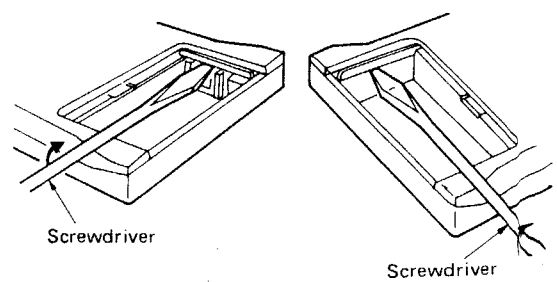

Fig. 20
3. Insert a screwdriver between the top and bottom covers inside the battery compartment and gradually loosen the bottom cover. [Fig. 20]